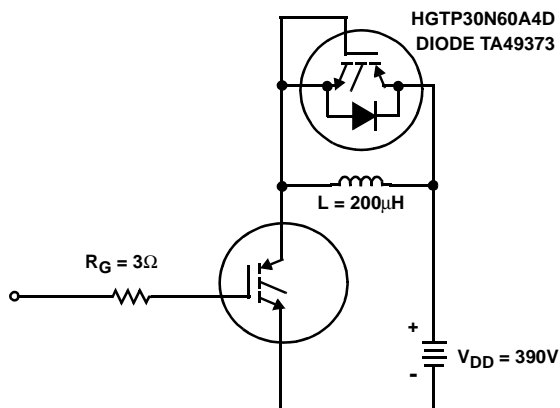

FIGURE 20. INDUCTIVE SWITCHING TEST CIRCUIT
2. Values for two Turn-On loss conditions are shown for the convenience of the circuit designer.  $E_{ON1}$  is the turn-on loss of the IGBT only.  $E_{ON2}$  is the turn-on loss when a typical diode is used in the test circuit and the diode is at the same  $T_J$  as the IGBT. The diode type is specified in Figure 20.